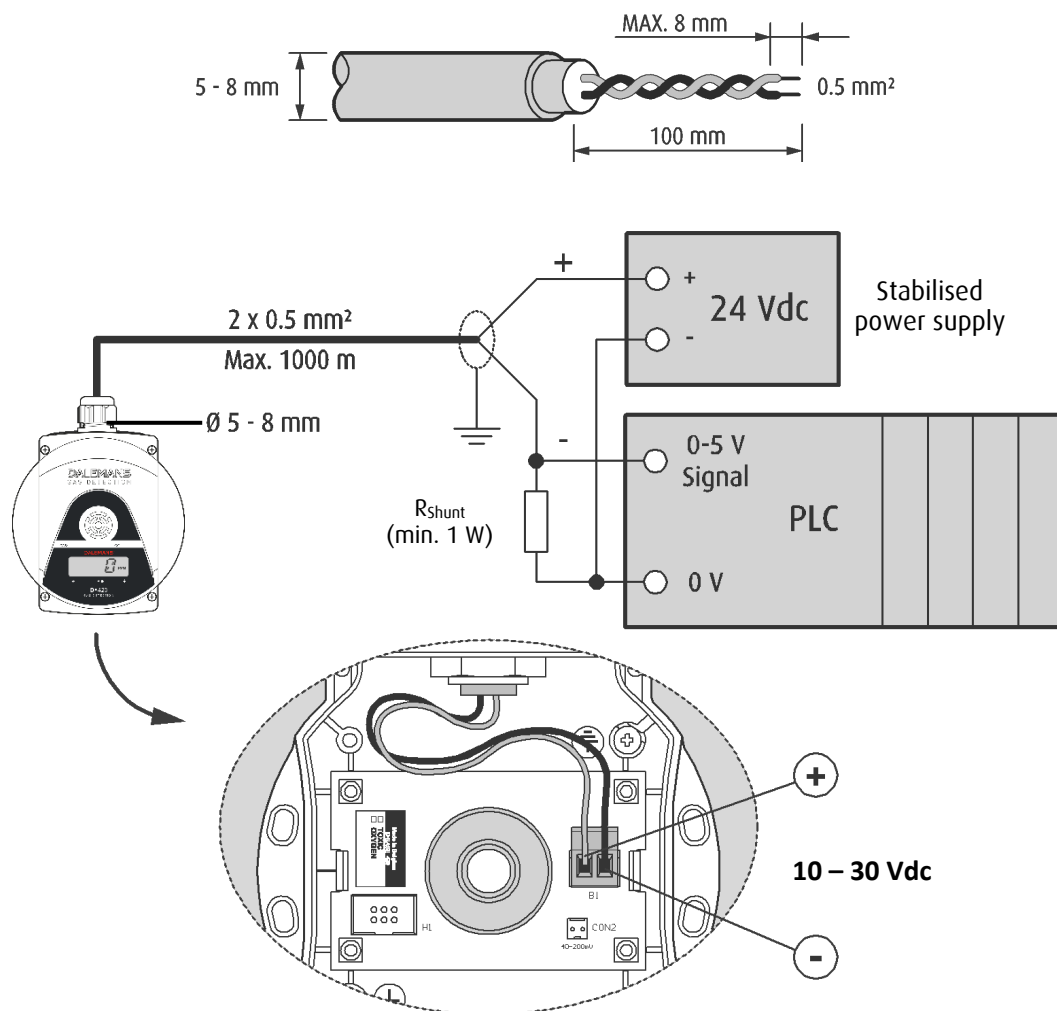

Figure 9: 2-wire connection to a PLC
- Connect the wires to the B1 connector according to Figure 9 or Figure 10 below.